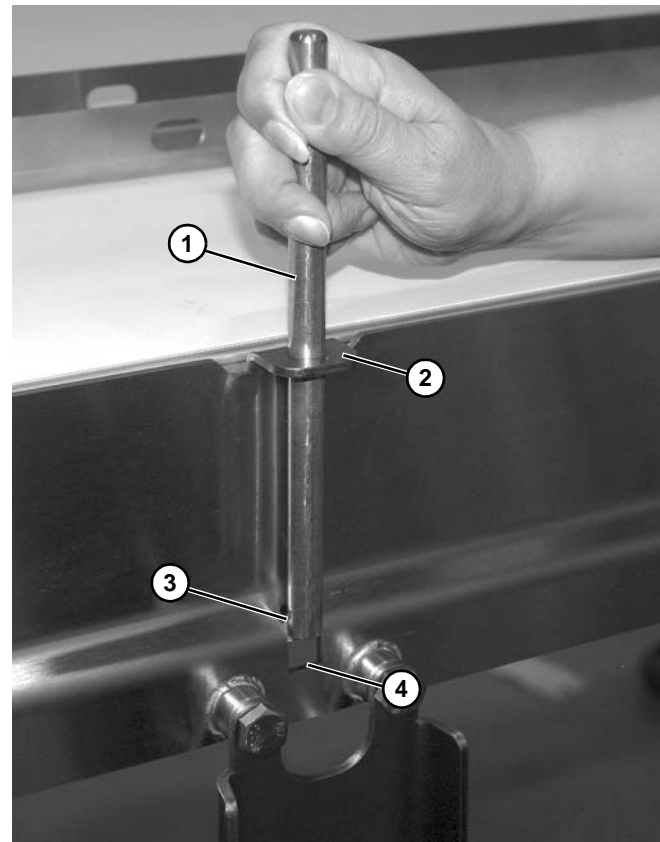

Figure 58
1. Install guide post (**Figure 58, item 1**) through conveyor side frame tab (**Figure 58, item 2**), making sure slotted portion (**Figure 58, item 3**) of post is fully seated into the bottom (**Figure 58, item 4**) of frame. Tap to lock in place.